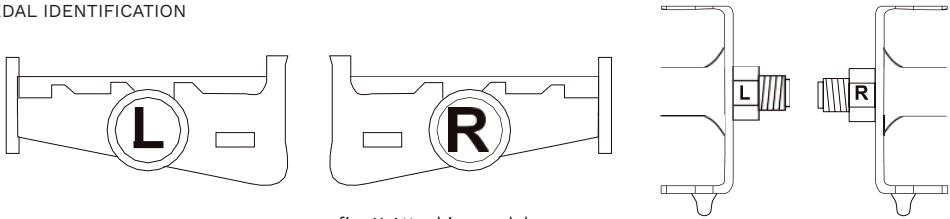

fig. 11 Attaching pedals
Step 4 Attaching Pedals (refer to fig. 11) :